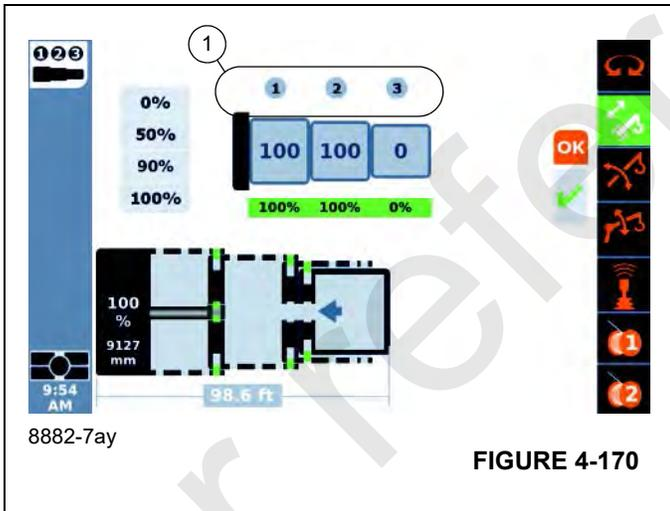

FIGURE 4-170
1 - 3	Display of telescopic sections 1 to 3 (1), (Figure 4-170)